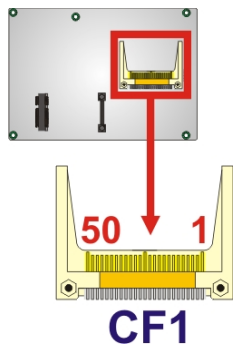

Figure 3-4: CompactFlash® Slot Location
- CN Location:** See **Figure 3-4**